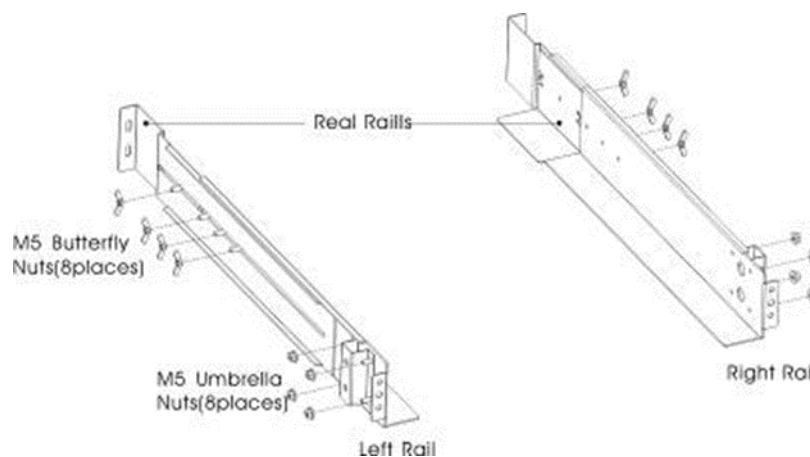

Figure 1: Securing the rails
(1) How to install the rail kit
- Assemble the left and right rails to the rear rails as shown in Figure 1. Do not tighten the screws. Adjust each rail size for the depth of your rack.
- Tighten four M5 Umbrella Nuts in the side of rail assembly (see Figure 1).